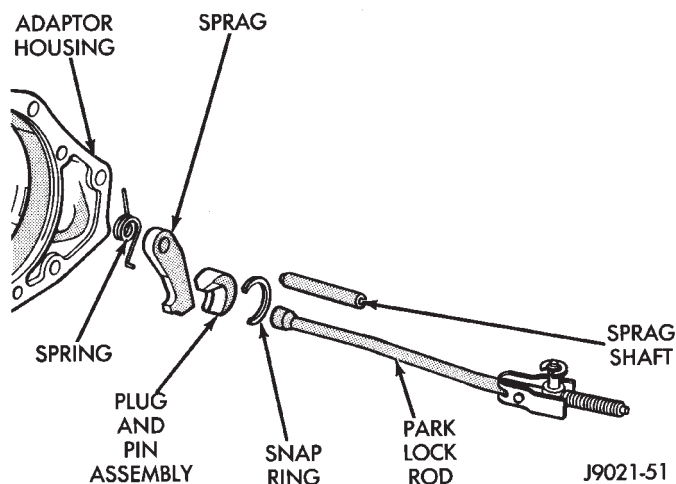

Fig. 14 Park Lock Components
- (1) Raise vehicle and remove transfer case and adapter housing from transmission.
(2) Slide sprag shaft out of adapter housing and remove park sprag and spring (Fig. 14).
(3) Remove snap ring and slide plug and pin assembly out of housing (Fig. 14).
(4) If park rod must be serviced, remove valve body and remove rod.